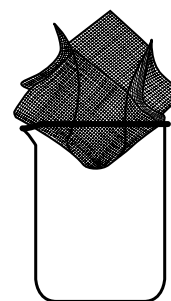

Figure 1.
2. Shape the wire to form a trough that will extend down into the beaker approximately 1" (see Figure 1). This trough will hold the cupric sulfate and cobalt nitrate crystals.